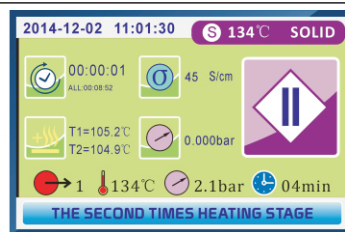

Fig.5.3-25
5.3.2.4. THE SECOND TIMES HEATING STAGE (Fig.5.3-25)